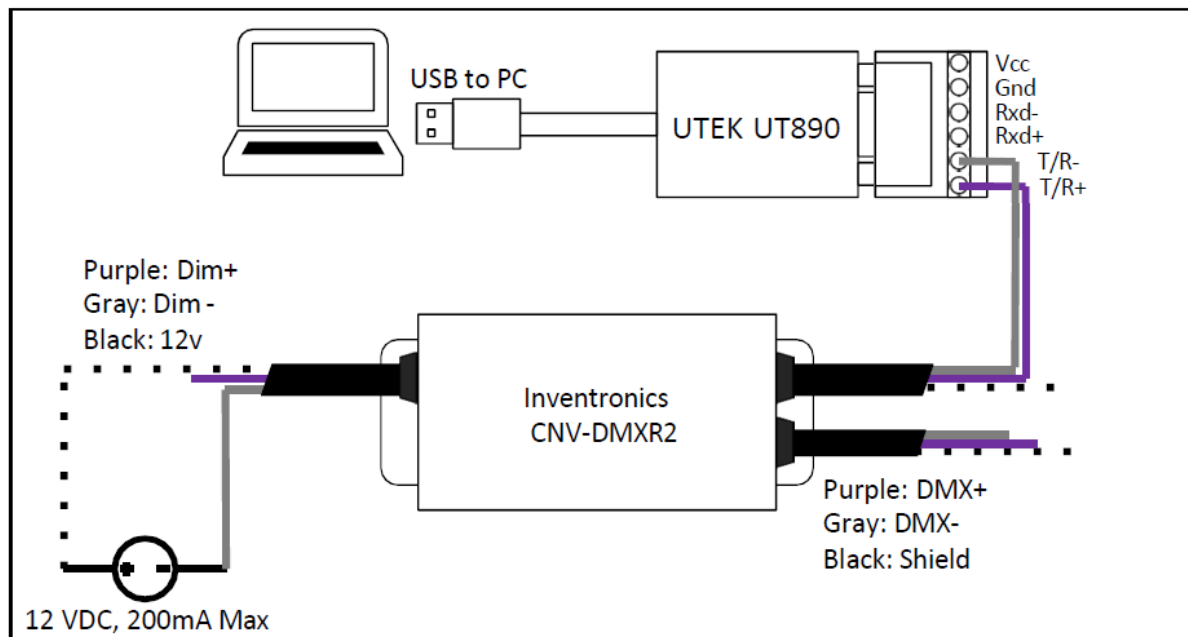

Figure 1: Wiring Diagram
- A wiring diagram for connections required to program the CNV-DMXR2 can be seen below in Figure 1.
- Connection between CNV-DMXR2 and the UT890 (See Figure 1)